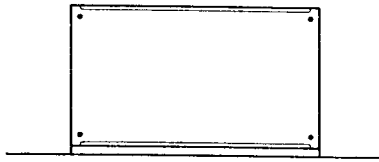

Figure 4
- Press "Hold" button. Unit will read "-0.0" within five (5) seconds. **CAUTION: DO NOT MOVE UNTIL LCD READS "-0.0"**. Position unit 180° on reference surface, display facing away from you. See Figure 4.